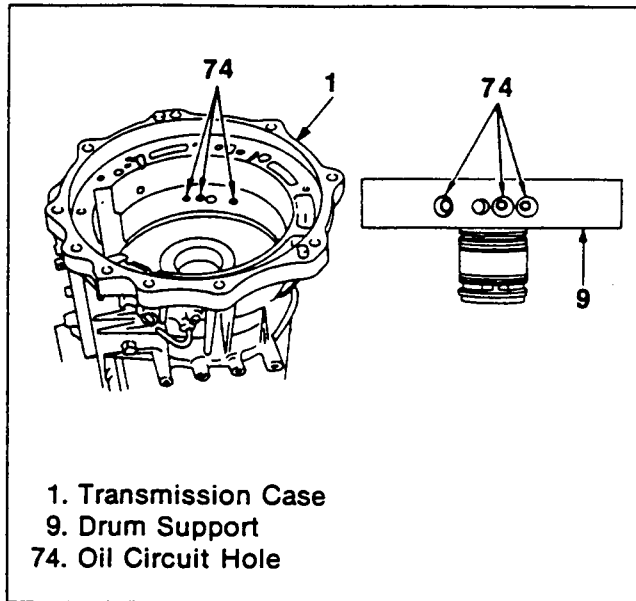

Figure 21. Seal Flakes Removal
4. Blow compressed air over circuit holes in the case to remove seal flakes (figure 21).